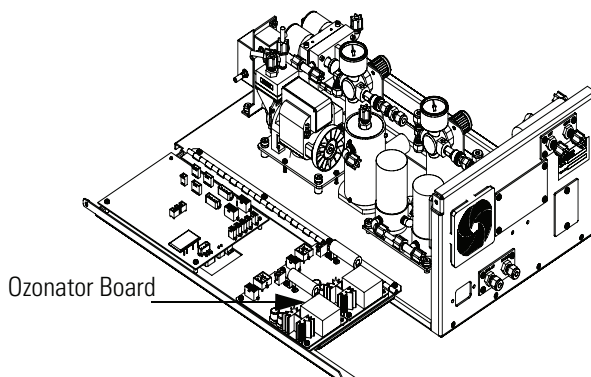

Figure 6-13. Ozonator Board Location
2. Unplug the ozonator lamp cable from the LAMP connector on ozonator board (Figure 6-13).
2. Unplug heater cable from the LAMP HEATER and LAMP connectors on the ozonator board (Figure 6-13).
Use the following procedure to replace the ozonator board (Figure 6-13).